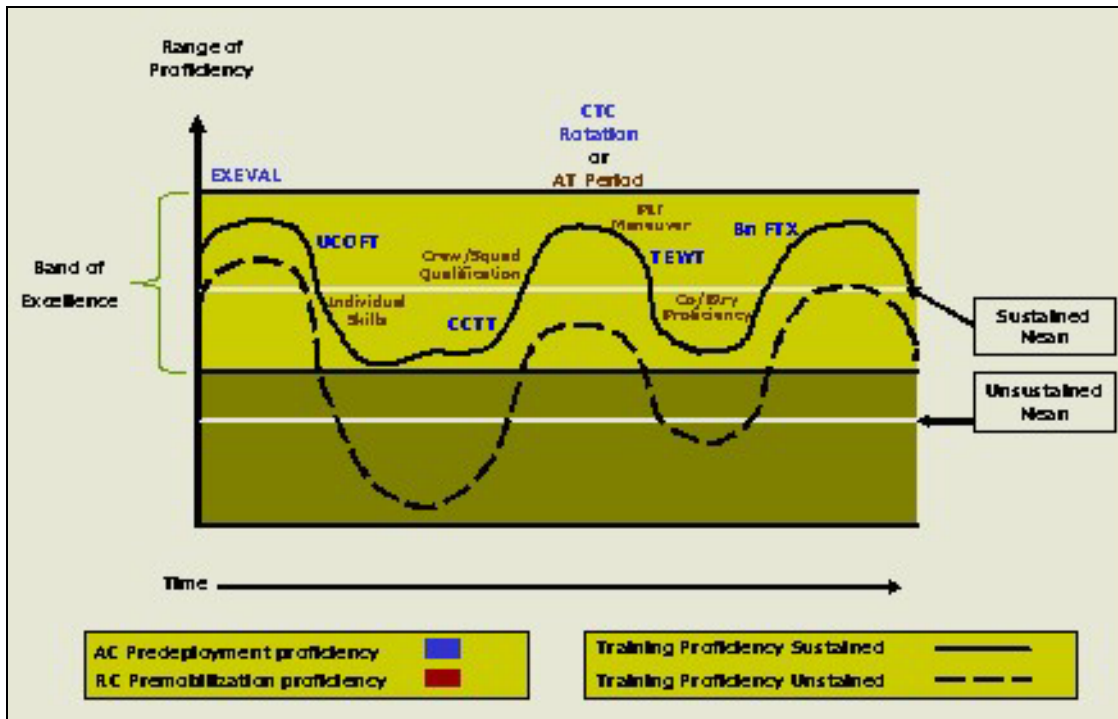

Figure 1-6. Band of Excellence
(1) Once individuals and units have trained to a required level of proficiency, leaders must structure individual and collective training plans to retrain critical tasks at the minimum frequency necessary to sustain proficiency. Sustainment training is the key to maintaining unit proficiency through personnel turbulence and operational deployments. MTP and individual training plans are tools to help achieve and sustain collective and individual proficiency. Sustainment training must occur often enough to train new soldiers and minimize skill decay. Army units train to accomplish their missions by frequent sustainment training on critical tasks. Infrequent "peaking" of training for an event (CTC rotation, for example) does not sustain wartime proficiency. Battle-focused training is training on wartime tasks. Many of the METL tasks that a unit trains on for its wartime mission are the same as required for a stability operation or support operation that they might execute.
(2) Sustainment training enables units to operate in a Band of Excellence (Figure 1-6) through appropriate repetition of critical tasks. The Band of Excellence is the range of proficiency within which a unit is capable of executing its wartime METL tasks. For RC units the Band of Excellence is the range of proficiency within which a unit is capable of executing its pre-mobilization tasks. Training to sustain proficiency in the Band of Excellence includes training of leaders, battle staffs, and small lethal units. The solid black line shows the results of an effective unit training strategy that sustains training proficiency over time, maintaining it within the Band of Excellence. The dotted black line shows an ineffective training strategy that often causes the unit to fall outside the Band of Excellence, thus requiring significant additional training before the unit is capable of executing its wartime METL tasks. Personnel turbulence and availability of resources pose a continuous challenge to maintaining METL proficiency within the Band of Excellence.